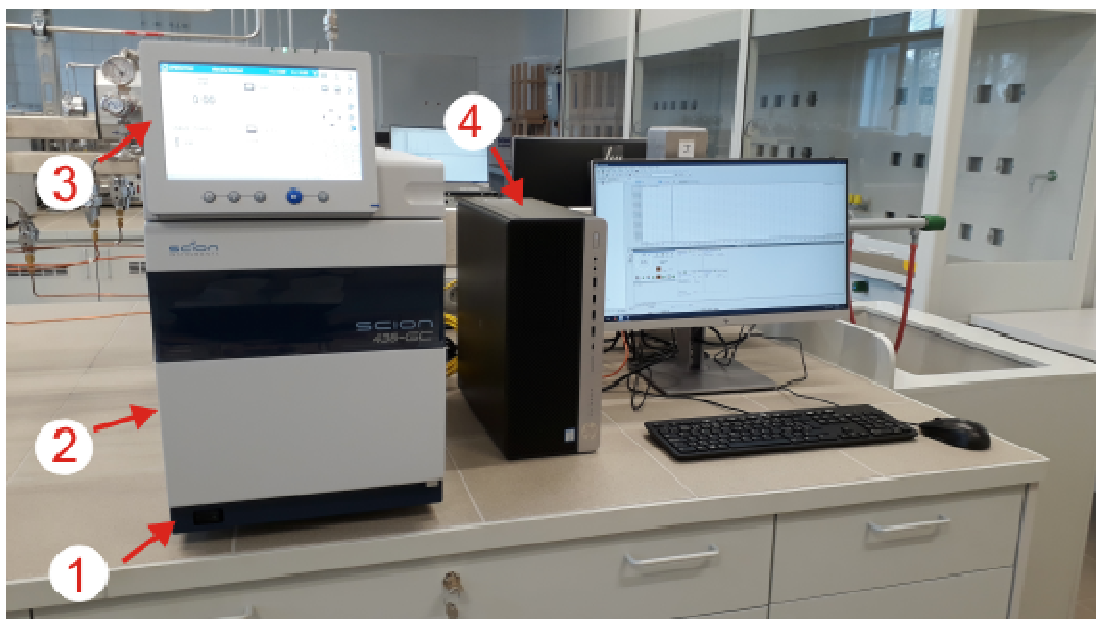

Fig. 3. Gas chromatograph Scion 436-GC
The diagram of the gas chromatograph Scion 436-GC is shown in Fig. 3. The power switch (1) is placed in the lower left corner of the front side of the instrument. Carrier gas flow and pressure are fully regulated by electronic regulators, and values can be set on the computer during method setup. The injector and the detector are both found in the upper part of the instrument. The instrument settings can be controlled by a touch display (3) or a computer (4). The computer is equipped by SW Compass CDS, which enables to both control the instrument and process the acquired data.